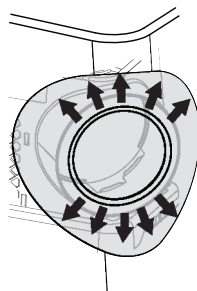

Figure 15
- Stretch mesh cover opening to seal the edges of the bag vent, as shown in Figure 15.